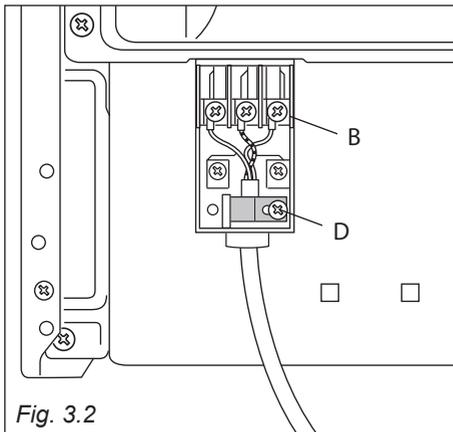

Fig. 3.2
- Unscrew cable clamp "D" (fig. 3.2).